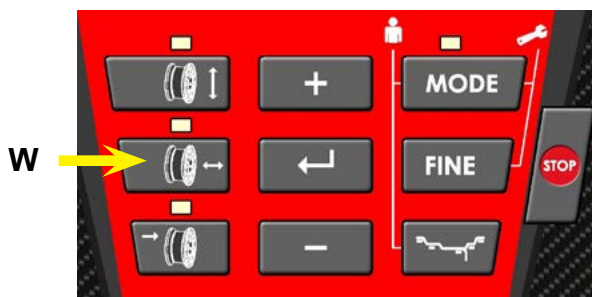
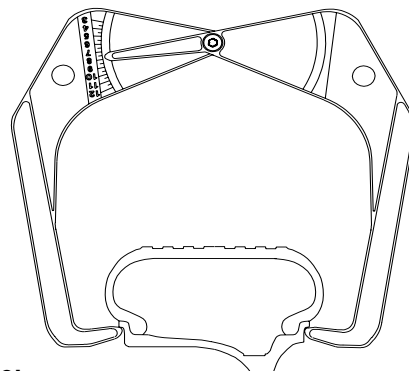

Figure 23a
Figure 23b
**4.5.3. Measure/Enter rim width (manual)** using rim width calipers. Measure wheel where corrective clip-on weight would be applied, Figure 23b. Press the Width entry key, Figure 23a, and enter the measured width by pressing +/- keys until the desired value appears in the display.